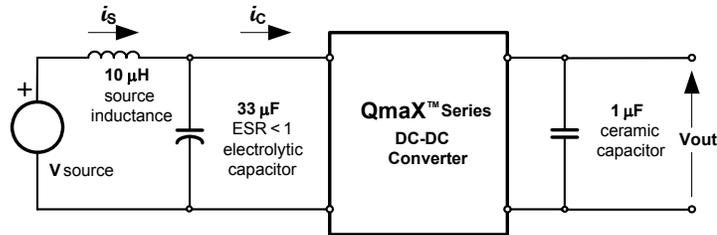

Fig. 1.5V.11: Test Setup for measuring input reflected ripple currents,  $i_c$  and  $i_s$ .
**Fig. 1.5V.1:** Available load current vs. ambient air temperature and airflow rates for QM48T45015 converter with B height pins mounted vertically with  $V_{in} = 48\text{ V}$ , air flowing from pin 3 to pin 1, and MOSFET temperature  $\leq 120\text{ }^\circ\text{C}$ .
**Fig. 1.5V.2:** Available load current vs. ambient air temperature and airflow rates for QM48T45015 converter with B height pins mounted horizontally with  $V_{in} = 48\text{ V}$ , air flowing from pin 3 to pin 1, and MOSFET temperature  $\leq 120\text{ }^\circ\text{C}$ .
**Fig. 1.5V.3:** Efficiency vs. load current and input voltage for converter mounted vertically with air flowing from pin 3 to pin 1 at a rate of 300 LFM (1.5 m/s) and  $T_a = 25\text{ }^\circ\text{C}$ .
**Fig. 1.5V.4:** Efficiency vs. load current and ambient temperature for converter mounted vertically with  $V_{in} = 48\text{ V}$  and air flowing from pin 3 to pin 1 at a rate of 200 LFM (1.0 m/s).
**Fig. 1.5V.5:** Power dissipation vs. load current and input voltage for converter mounted vertically with air flowing from pin 3 to pin 1 at a rate of 300 LFM (1.5 m/s) and  $T_a = 25\text{ }^\circ\text{C}$ .
**Fig. 1.5V.6:** Power dissipation vs. load current and ambient temperature for converter mounted vertically with  $V_{in} = 48\text{ V}$  and air flowing from pin 3 to pin 1 at a rate of 200 LFM (1.0 m/s).
**Fig. 1.5V.7:** Turn-on transient at full rated load current (resistive) with no output capacitor at  $V_{in} = 48\text{ V}$ , triggered via ON/OFF pin. Top trace: ON/OFF signal (5 V/div.). Bottom trace: output voltage (1 V/div.) Time scale: 2 ms/div.
**Fig. 1.5V.8:** Turn-on transient at full rated load current (resistive) plus 40,000  $\mu\text{F}$  at  $V_{in} = 48\text{ V}$ , triggered via ON/OFF pin. Top trace: ON/OFF signal (5 V/div.). Bottom trace: output voltage (1 V/div.). Time scale: 2 ms/div.
**Fig. 1.5V.9:** Output voltage response to load current step-change (22.5 A – 33.75 A – 22.5 A) at  $V_{in} = 48\text{ V}$ . Top trace: output voltage (100 mV/div.). Bottom trace: load current (10 A/div). Current slew rate: 1 A/ $\mu\text{s}$ .  $C_o = 470\text{ }\mu\text{F}$  tantalum + 1  $\mu\text{F}$  ceramic. Time scale: 0.2 ms/div.
**Fig. 1.5V.10:** Output voltage ripple (20 mV/div.) at full rated load current into a resistive load with  $C_o = 10\text{ }\mu\text{F}$  tantalum + 1  $\mu\text{F}$  ceramic and  $V_{in} = 48\text{ V}$ . Time scale: 1  $\mu\text{s}$ /div.
Fig. 1.5V.12: Input reflected ripple current,  $i_s$  (10 mA/div), measured through 10  $\mu$ H at the source at full rated load current and  $V_{in} = 48$  V. Refer to Fig. 1.5V.11 for test setup. Time scale: 1  $\mu$ s/div.
Fig. 1.5V.13: Input reflected ripple current,  $i_c$  (100 mA/div), measured at input terminals at full rated load current and  $V_{in} = 48$  V. Refer to Fig. 1.5V.11 for test setup. Time scale: 1  $\mu$ s/div.
Fig. 1.5V.14: Output voltage vs. load current showing current limit point and converter shutdown point. Input voltage has almost no effect on current limit characteristic.
Fig. 1.5V.15: Load current (top trace, 20 A/div, 20 ms/div) into a 10 m $\Omega$  short circuit during restart, at  $V_{in} = 48$  V. Bottom trace (20 A/div, 1 ms/div) is an expansion of the on-time portion of the top trace.